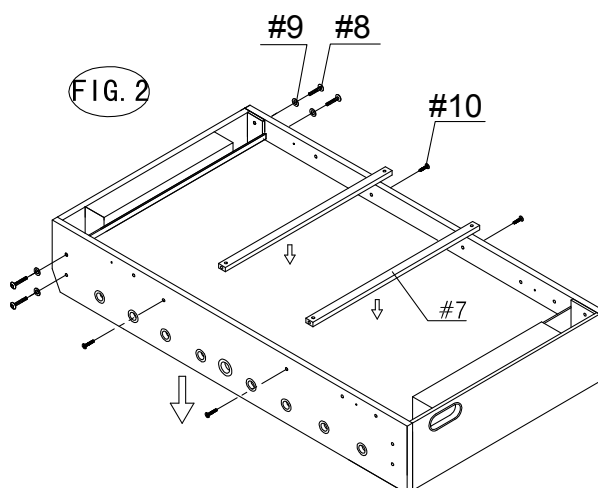

FIG.3.
7) Attach the (#4) and (#5) Legs to the Cabinet using one of Bolts (#8), two of Washers (#9),one of Nut (#13),one of Wing Bolt (#15) per Leg as shown in FIG 3 and 3-1.